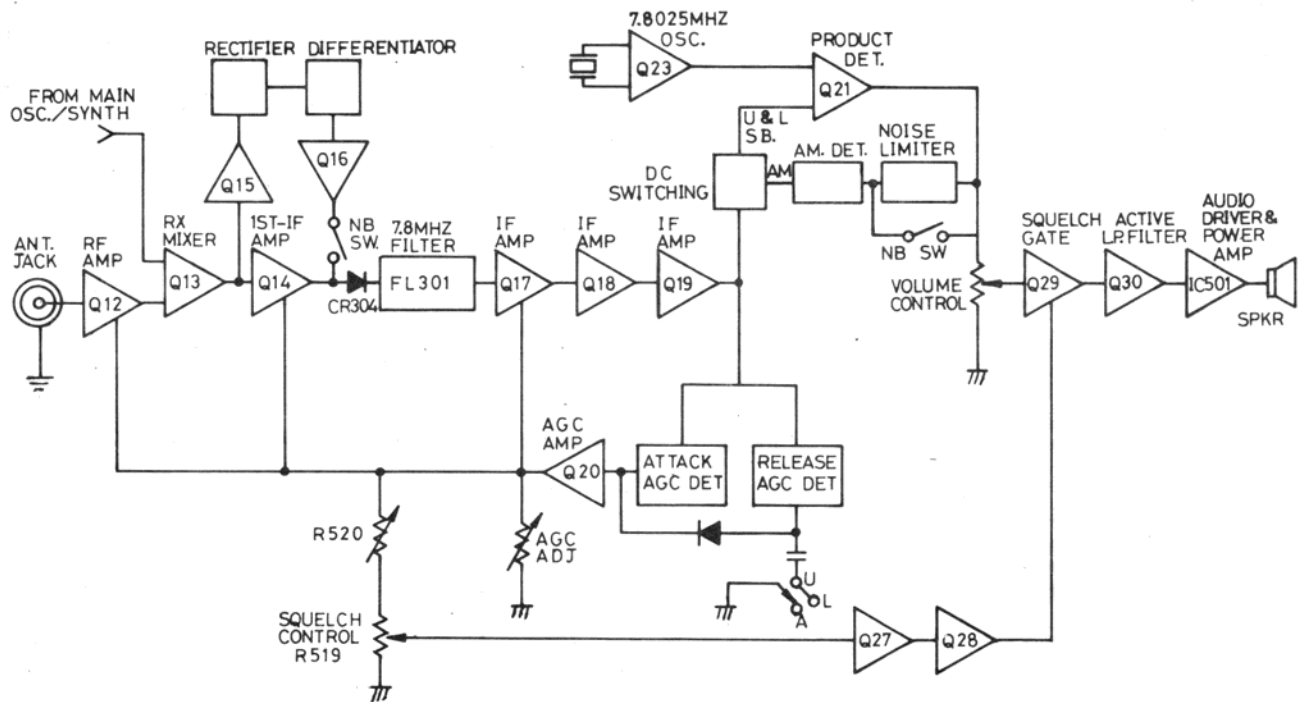

Figure 2-6 Receiver Block Diagram
2.5 RECEIVER (Refer to Figure 2-6)